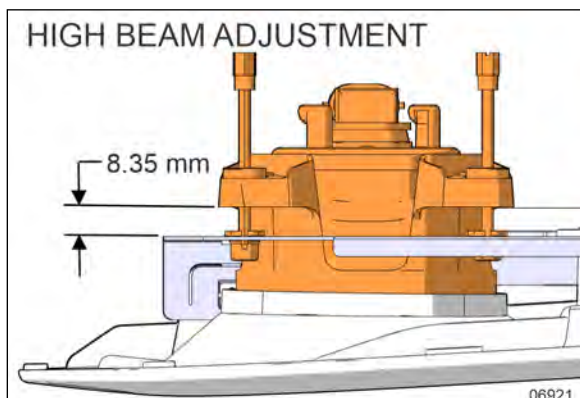
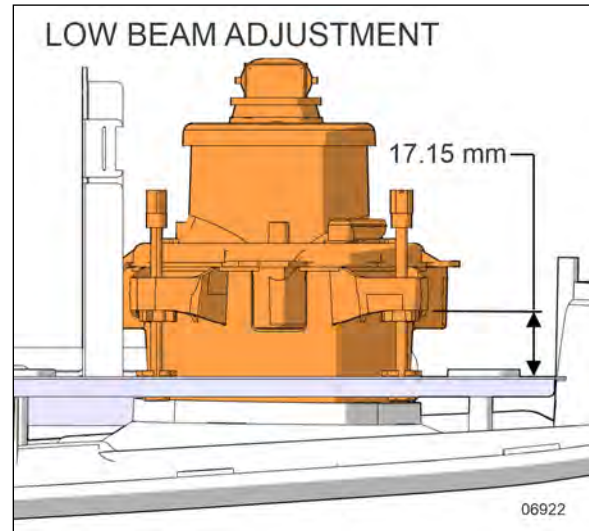

FIGURE 82: HIGH BEAM ADJUSTMENT
FIGURE 83: LOW BEAM ADJUSTMENT
9. Adjust the headlamp module height in relation to the metal support at each threaded rod. Screw threaded rods until height of the headlamp module reaches the values shown in Figure 82 & Figure 83.